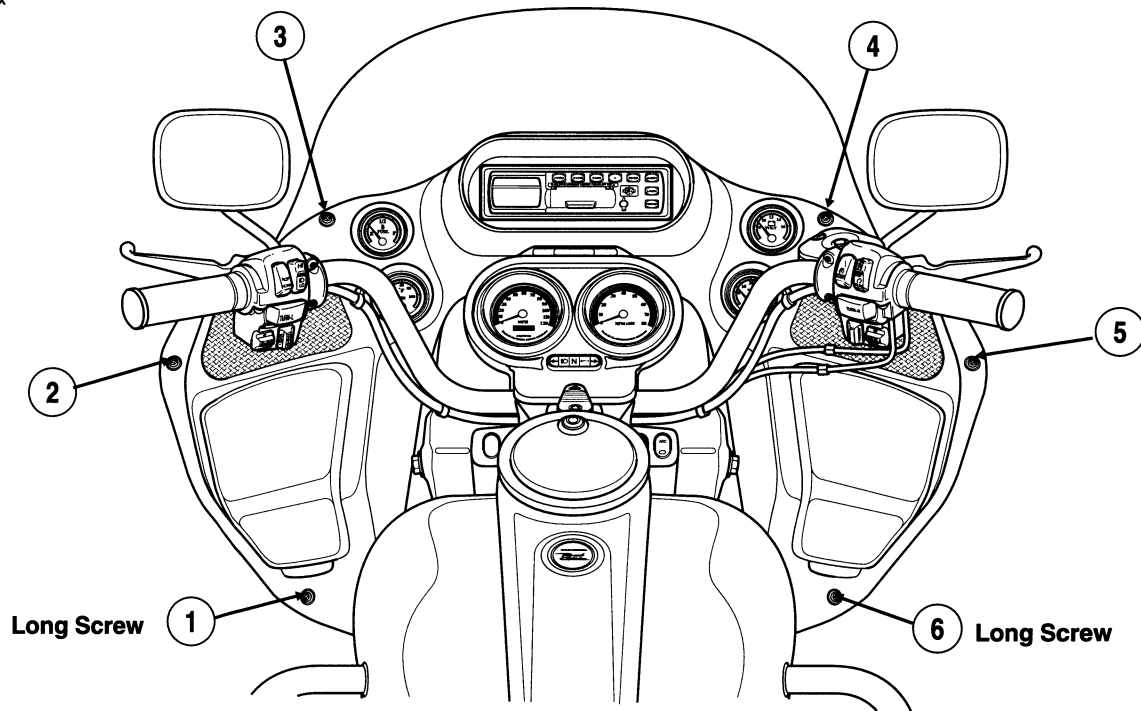
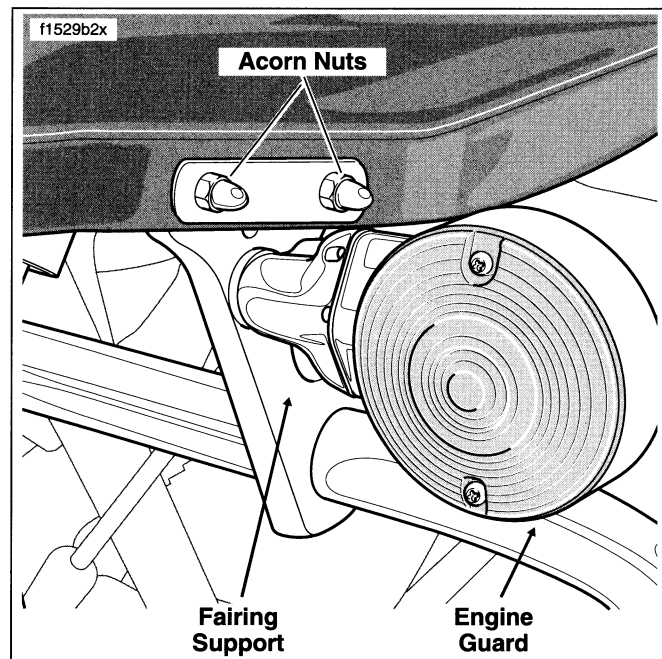

Figure 80. Outer Fairing Screws
Figure 81. Acorn Nut Removal (Left Side)
2. See Figure 80. Standing on left side of vehicle, use a T-25 TORX® drive head to remove screw (item 1) just below glove compartment.
3. Remove screw (item 2) at edge of fairing outboard of the left speaker.
4. Loosen top left and right screws (items 3 & 4) just outboard of the fuel and volt gauges, respectively.
5. Remove screw (item 5) at edge of fairing outboard of the right speaker.
6. Remove screw (item 6) just below right side glove compartment.
7. See Figure 81. In area of front turn signal lamp, remove two acorn nuts with flat washers from studs. Repeat step on left side of vehicle.
5. See Figure 80. Using a T25 TORX® drive head, start the top right (item 4) and left (item 3) screws just outboard of the volt and fuel gauges, respectively. Mounting bosses are painted white for easier alignment of screws.
7. See Figure 81. Install flat washers and acorn nuts on studs. Tighten acorn nuts to 40-50 **in-lbs** (4.5-5.7 Nm) torque. Repeat step to install stud plate on right side of vehicle.
8. Install the first of two long screws (item 6) just below the right side glove compartment.
9. Install screw (item 5) at edge of fairing outboard of the right speaker.
10. Moving to left side of vehicle, install the second of two long screws (item 1) just below the glove compartment.
11. Install screw (item 2) at edge of fairing outboard of the left speaker.
12. Alternately tighten four short fairing screws (items 2, 3, 4, & 5) to 6-12 **in-lbs** (0.7-1.4 Nm) torque.
13. Alternately tighten two long fairing screws (items 1 & 2) to 12-15 **in-lbs** (1.4-1.7 Nm) torque.